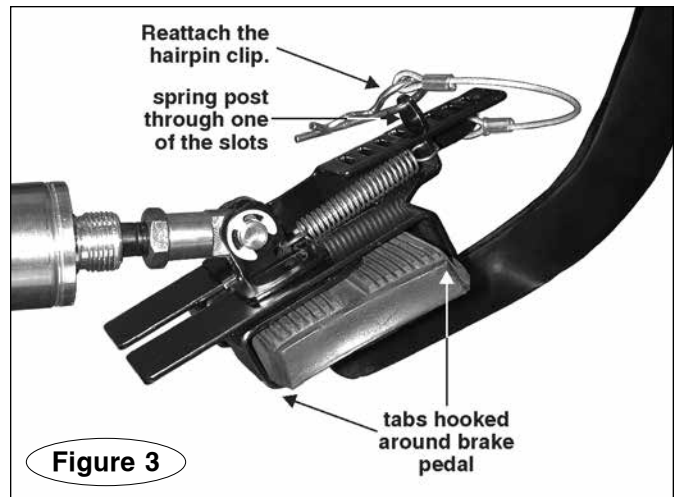

Figure 3
5. Fit the pedal clamp onto the brake pedal, so that all four tabs are hooked around it (Figure 3). Then, release the spring post.
6. Swing the slotted arm back over the spring post, fit the spring post through one of the slots, and reattach the hairpin clip (Figure 3).
C. The pedal clamp must be flat against the brake pedal and properly secured with the hairpin clip (Figure 3).